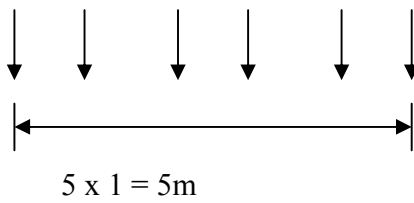

Figure.6
- Q.5** (a) A simple support beam has span of 20m and loaded by a train of wheels as shown in the figure.6. Calculate the maximum bending moment and shear force induced at 8m from left support. **05**